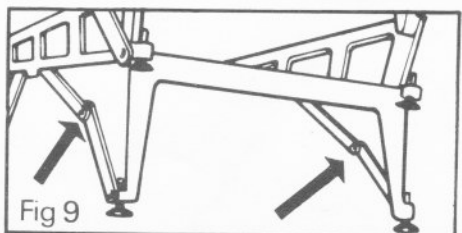

Fig 9
- 3 Reach over the vise bars and bend both leg support struts before pushing the rear leg away under the Workmate, see Fig. 9 and 9a.